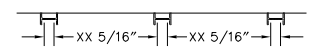

FIG. 4
- If more than one hang-on component is being hung on the wall track (side by side, not up and down) the wall track should be spaced so the adjacent hang-on components share one wall track. (Figure 4).